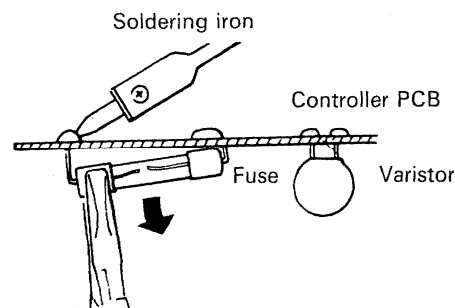

Fig. 12
2. Pull out the fuse at the metal clasp by a pair of pliers while heating the soldered leads on the back side of the controller PCB with a soldering iron (30W or 60W). Fig. 12.